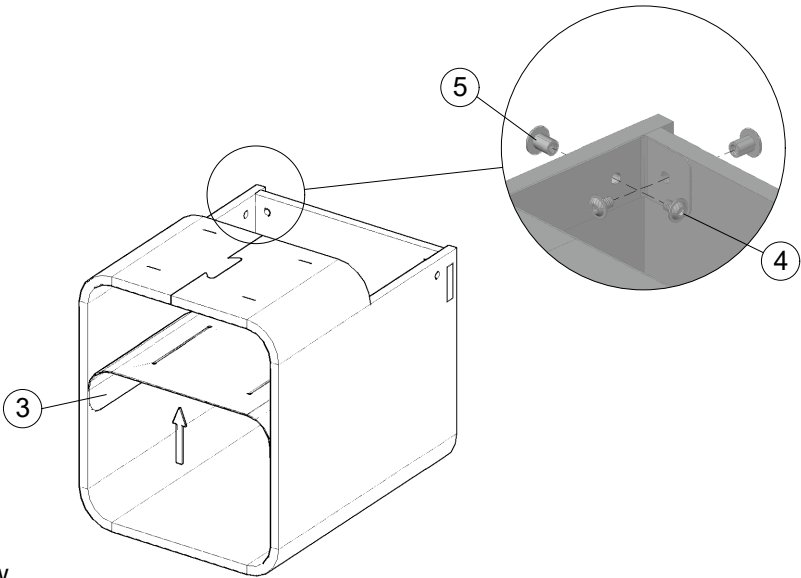

Figure 3
- 3. Insert the Upper Tray and secure it to the PET Surround and PET Back Panel by using a drill and hex bit to screw a 1/4"-20x3/8 Flanged Button Head Screw into the 1/4-20x12 mm Barrel Nut , as demonstrated in Figure 3.